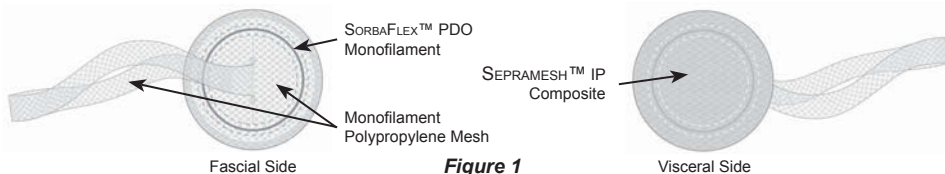

Figure 1
VENTRALEX™ ST Hernia Patch is a self-expanding bioresorbable coated, partially absorbable, sterile prosthesis, containing 2 distinct layers stitched with PTFE monofilament, forming a positioning pocket and strap. The top layer is monofilament polypropylene mesh and the bottom layer is SEPRAMESH™ IP Composite mesh. SEPRAMESH™ IP Composite is co-knitted using polypropylene (PP) and absorbable polyglycolic acid (PGA) fibers to result in a two-sided mesh with a PP surface and a PGA surface. The mesh is coated on the PGA surface with a bioresorbable, chemically modified sodium hyaluronate (HA), carboxymethylcellulose (CMC) and polyethylene glycol (PEG) based hydrogel (see Figure 1).